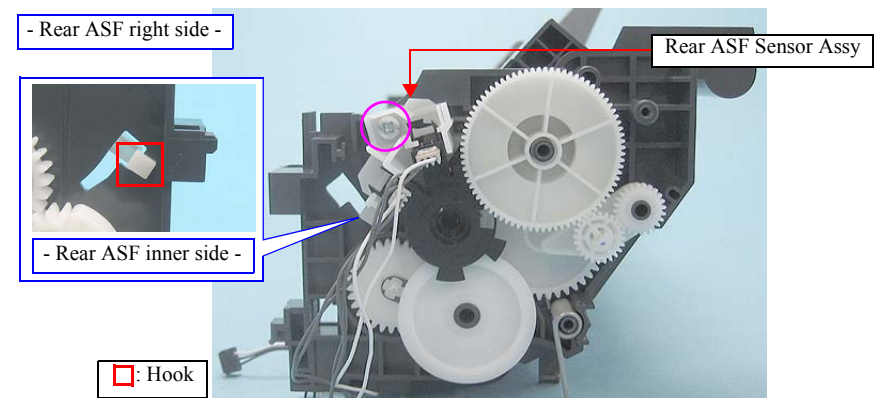

Figure 4-150. Removing the Rear ASF Sensor Assy
- When installing the Rear ASF Sensor Unit, attach its hook to the cutout of the Rear ASF Assy as shown in Figure.4-150.